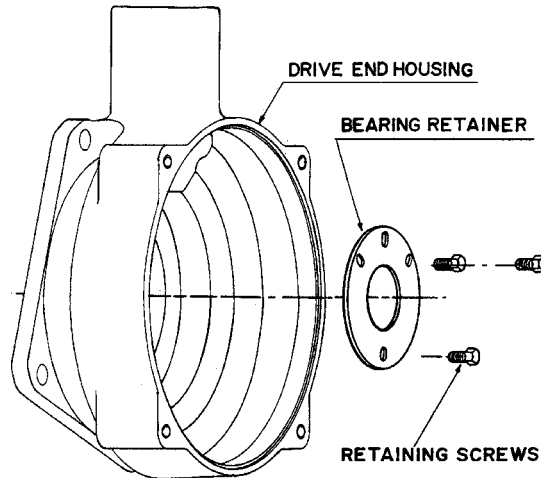

FIGURE 3
1. Remove the three retaining screws (9) and, the retainer plates (8). (See Figure 3.)